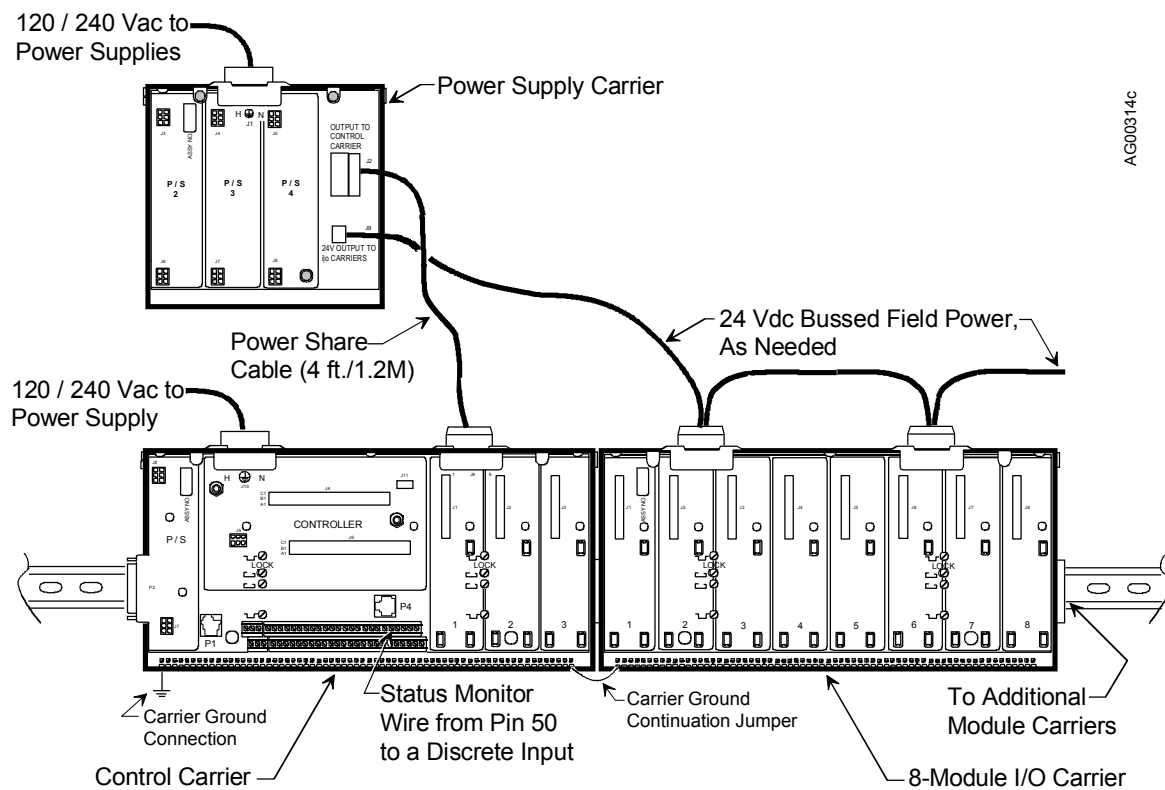

FIGURE 3 Power Supply Carrier Cabling
- 12 Vdc to the i/o modules on the control carrier and to the i/o modules on connected module carriers, as shown in Figure 3.